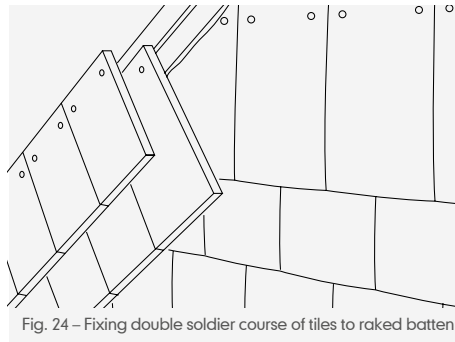

Fig. 24 – Fixing double soldier course of tiles to raked batten
- 3 Fix courses of eaves/tops tiles to raking batten (Fig. 24).
- 3 Fix courses of standard Plain tiles to lower of two raked battens, then fix course of eaves tiles to remaining (top) raked batten (Fig. 24).